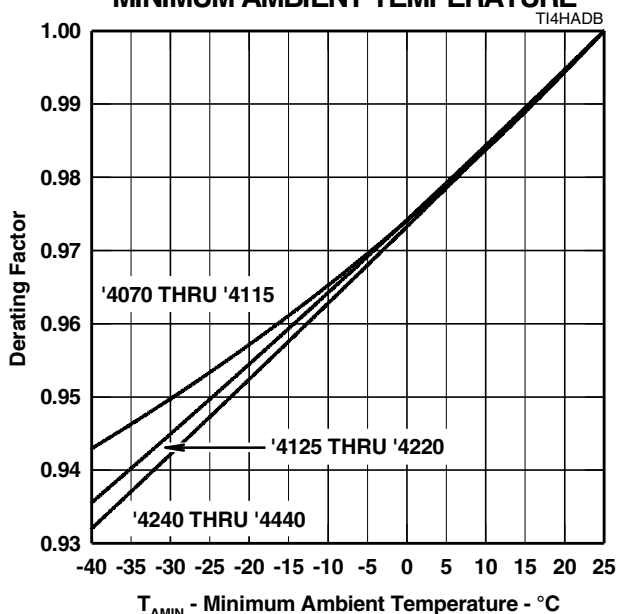

Figure 10.
- NOTES: 1. See Applications Information and Figure 10 for voltage values at lower temperatures.
Figure 10 allows the calculation of the protector V_{DRM} value at temperatures below 25 °C. The calculated value should not be less than the maximum normal system voltages. The TISP4265H3BJ, with a V_{DRM} of 200 V, can be used for the protection of ring generators producing 100 V r.m.s. of ring on a battery voltage of -58 V (Th2 and Th3 in Figure 17). The peak ring voltage will be $58 + 1.414 \times 100 = 199.4$ V. However, this is the open circuit voltage and the connection of the line and its equipment will reduce the peak voltage. In the extreme case of an unconnected line, clipping the peak voltage to 190 V should not activate the ring trip. This level of clipping would occur at the temperature when the V_{DRM} has reduced to $190/200 = 0.95$ of its 25 °C value. Figure 10 shows that this condition will occur at an ambient temperature of -22 °C. In this example, the TISP4265H3BJ will allow normal equipment operation provided that the minimum expected ambient temperature does not fall below -22 °C.